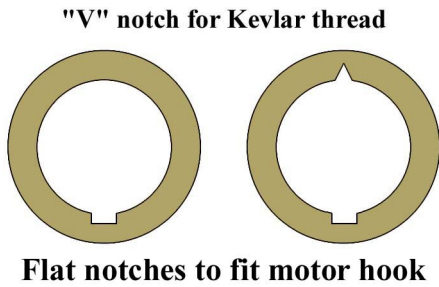

Figure 1
- **Step 1** Using a sharp hobby knife, modify the two CR-78 rings in the EM-78 package as shown in Figure 1. Cut the "V" notch in only one of the rings, and use this ring at the forward end of the mount. Assemble the EM-78 according to the SEMROC instructions, with the flat notches aligned over the motor hook. Make sure the "V" notch remains free of any glue. Clean it out with a damp brush before the glue has time to harden.